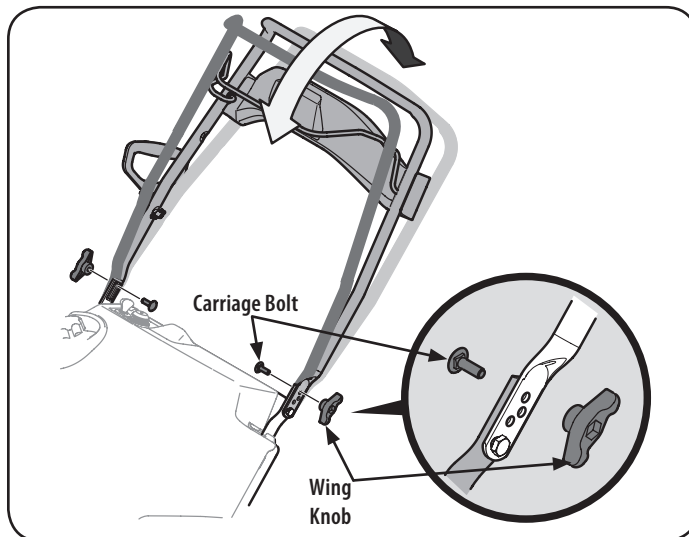

Figure 3
3. The handle can be set in three different positions. Place the handle in the desired position and then install wing knobs and carriage bolts in the appropriate hole and secure the handle. See Figure 3.